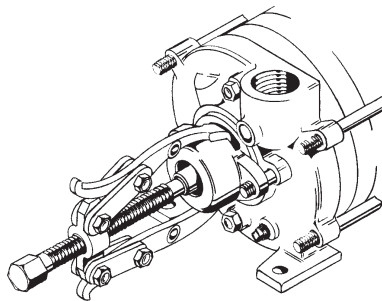

Figure 4-1
- The bearing arm (#3) may now be removed. A gear puller may be necessary. (refer to figure 4-1) The outboard ball bearing (#24) should now be removed. A gear puller will need to be used for this operation. If the bearing can be removed too easily, a worn bearing surface may be indicated. Replace the shaft and bearing as necessary before reassembly.
since the bearing (#24) is held in the bearing arm by means of a snap ring (#4). Removal of the bearing arm will bring the bearing along with it.(see figure 4-1)